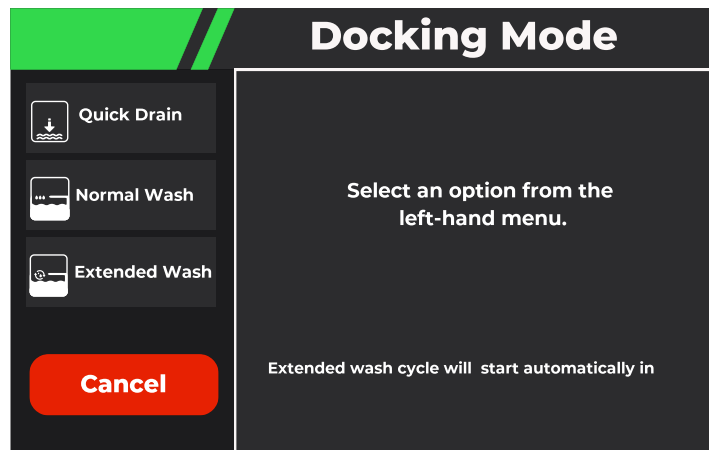
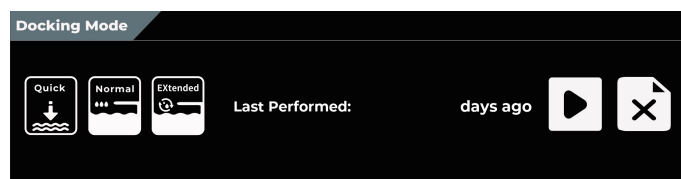

Figure 37 Initial Docking (main control display)
Figure 38 Initial Docking (secondary control display)
2. Press one of three timed wash cycle buttons from the main control display (Figure 37) or the secondary control display (Figure 38) and touch the START button to initiate the selected cycle. See Wash Cycle Options. If no option is selected, the default wash cycle will run.